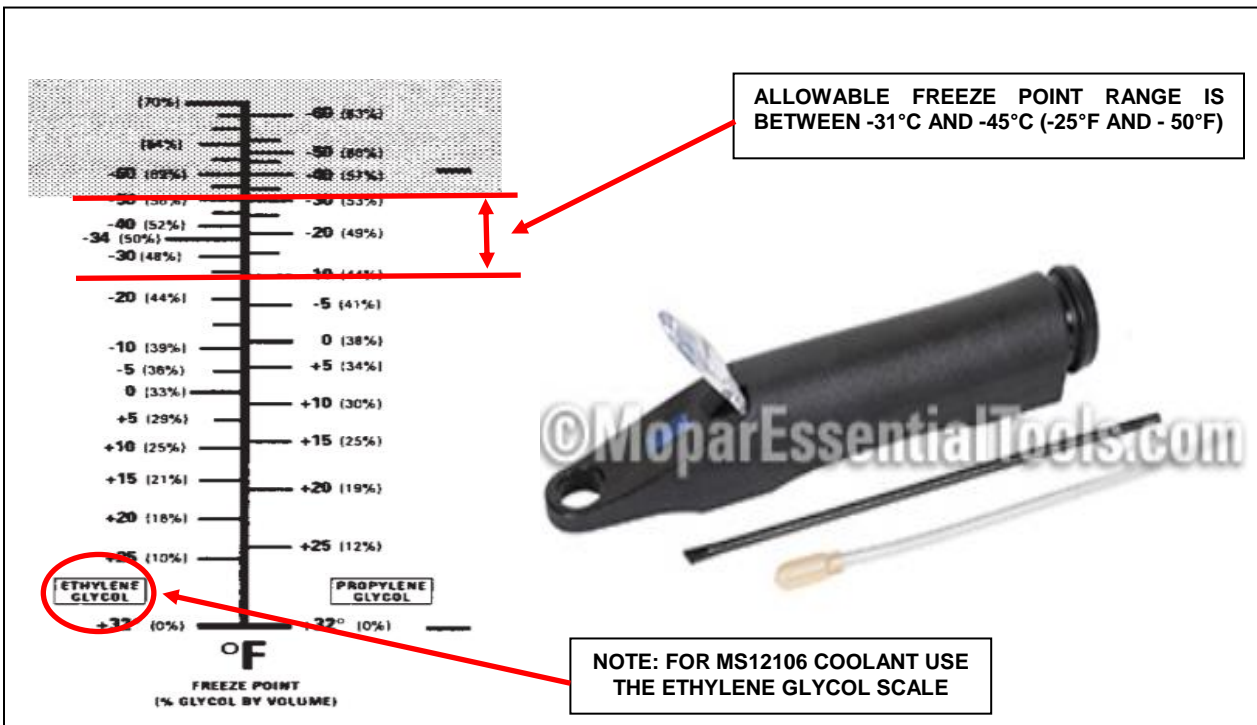

Figure 43 - Refractometer 8286 or Equivalent
- a. Using Refractometer 8286 or equivalent, following the manufacturer’s instructions, test the coolant freeze point (Figure 43).